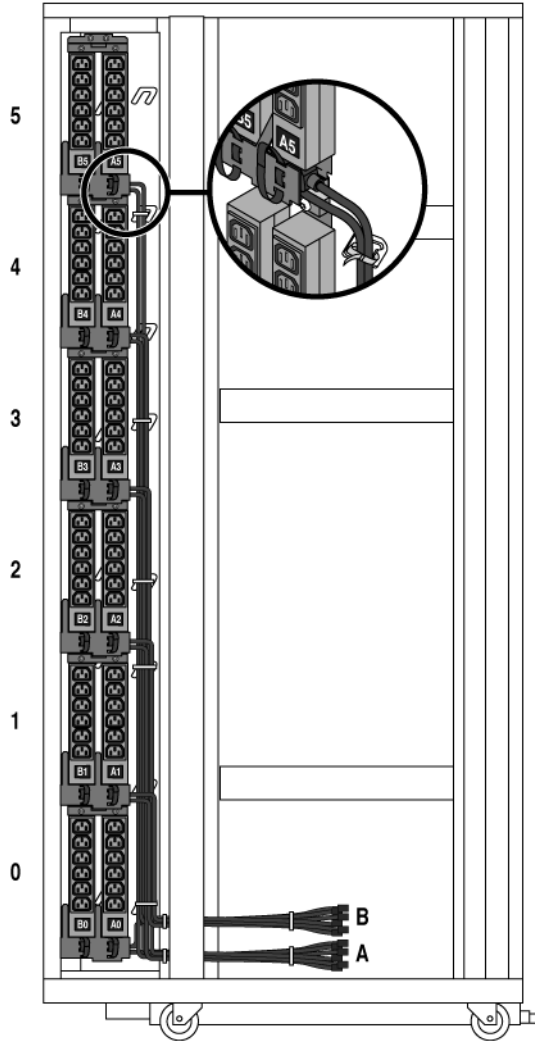

FIGURE 2-5 Tie-wrapping the Power Strip Cables
2. Route the cables along the sides of the power strips (FIGURE 2-5).
- a. Insert a tie wrap into the slots in the Sun Rack chassis (FIGURE 2-5).